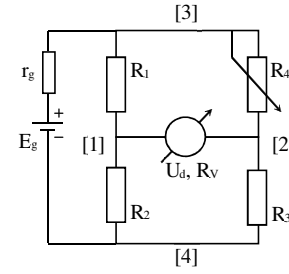
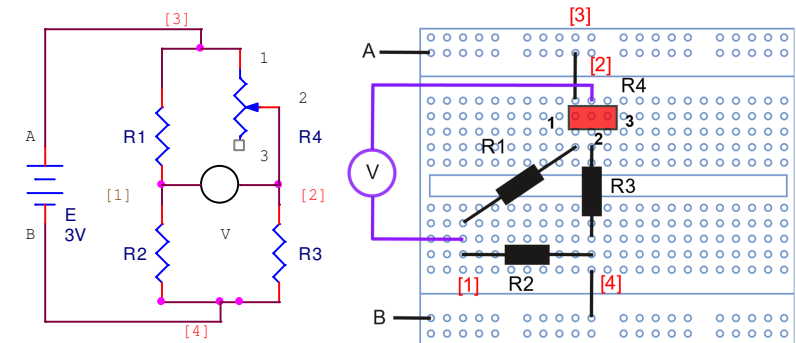

Fig. 3
Fig. 8: Example Wheatstone bridge on the protoboard
In Fig. 3 the schematic of a Wheatstone bridge can be seen, where r_g is the internal resistance of the source, and R_V is the internal resistance of the null indicator (or the voltmeter). Considering r_g negligible and R_V very high, the unbalance voltage is given by:
Observe that, if either the terminals 1-2 or 2-3 are connected in the circuit, depending on the adjustment, one can measure a resistance between 0 and max value (R_{13}). Do not connect terminals 1 and 3, because trying to adjust the potentiometer is useless, in this case. Observe that the remaining terminal can be connected at the cursor, as in Fig. 3, or it can be let unconnected, with the same result- either way, from an equivalent point of view the trimer must have *two* terminals in the circuit of the bridge.
Fig. 8 gives one option for the circuit from Fig. 3 on the solderless breadboard. The wires from the left part of the schematic are used to connect the DC supply, set at 3V.
-Measure the value of the trimmer for which the balance was obtained; do not remove the trimmer, however make sure it is electrically disconnected from the circuit (for instance, temporarily remove R3 and disconnect the power supply). If you don't separate the trimmer from the rest of the circuit, the measurement will be wrong, since you can see that the series group $R_1+R_2+R_3$ is in parallel to R_4 . Use two wires going from the holes in the protoboard corresponding to the trimmer, to the ohmmeter. Note the 2 terminals of the trimmer which were used (2 out of 3: for instance on fig. 8, terminals 1 and 2 were used). Measure the balance value $R_{40 \text{ measured}}$
- Compare the value $R_{40 \text{ measured}}$ for the potentiometer (when the bridge is balanced) with the value for balance $R_{40 \text{ calc}}$ computed with the relation for balanced bridges (4), using the *measured* values for resistances 1,2,3.
Remark: the voltmeter has a floating input – none of its input plugs is connected to the case; the DC supply has the output floating. If a non-floating supply and a non-floating voltmeter were used (for example, the c.a. millivoltmeter with BNC plug and the c.a. generator with BNC output), the grounds of the two apparatus would be common: the ground would appear between points 1 and 4 (or 2,4) from Fig. 3, putting in short-circuit the resistor R_2 , or R_3 .